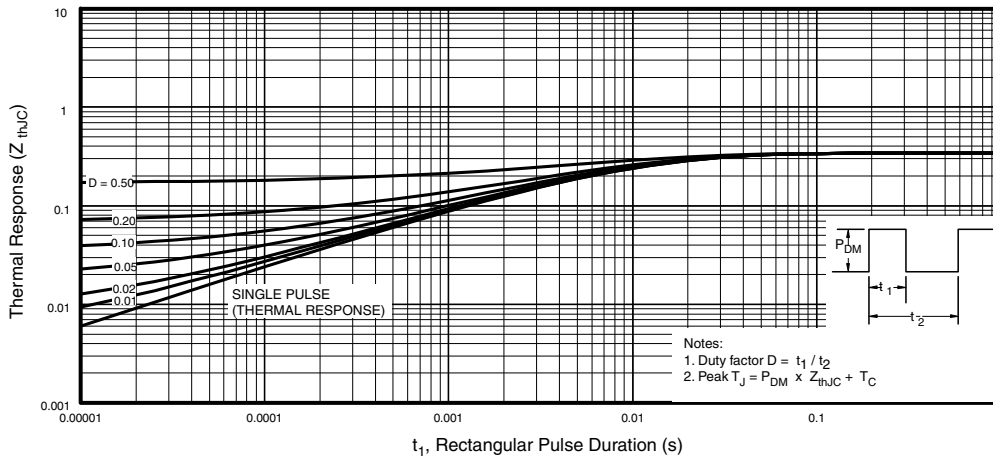

Fig. 12 - Maximum Effective Transient Thermal Impedance, Junction-to-Case
- Starting $T_J = 25\text{ }^\circ\text{C}$, $L = 1.5\text{ mH}$, $R_g = 25\text{ }^\circ\Omega$, $I_{AS} = 23\text{ A}$ (see fig. 12)